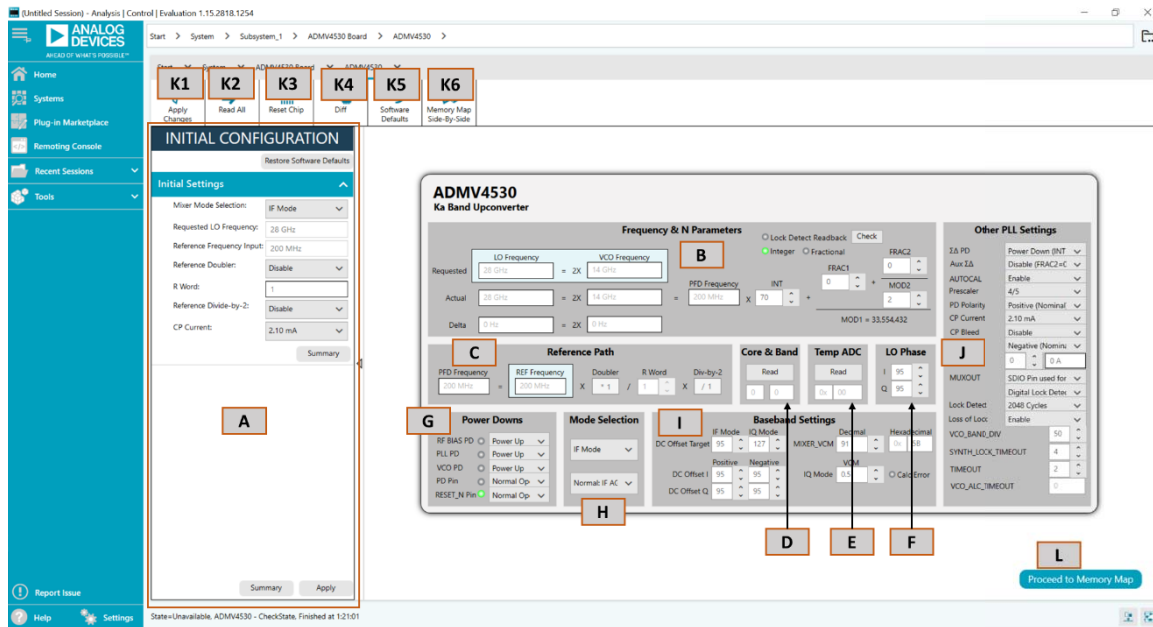

Figure 9. ADMV4530 Block Diagram with Labels
The full screen ADMV4530 user interface with labels is shown in Figure 9. The labels correspond to items listed in Table 1, which describes the functionality of each block. For additional detailed programming, refer to the ADMV4530 data sheet.
Table 1. ADMV4530 Block Diagram Label Functions (See Figure 9)
B	<p>Use the Frequency & N Parameters section to change settings for the LO frequency after applying the initial settings in the Initial Configuration (Label A) section. This section includes the following:</p> <p>Requested LO Frequency and VCO Frequency: enter values in these two text boxes to trigger the INT, FRAC1, FRAC2, and MOD2 calculations.</p> <p>INT, FRAC1, FRAC2, and MOD2: calculations based on the requested LO or VCO frequency. Changing these values directly changes the actual LO and VCO frequency accordingly but does not change the requested LO and VCO frequency text boxes.</p> <p>PFD Frequency: calculation based on the Reference Path (Label C) section.</p> <p>Actual LO Frequency and VCO Frequency: the actual LO frequency and the actual VCO frequency are calculated from the PFD frequency, INT, FRAC1, FRAC2, MOD1, and MOD2 parameters shown on the right side of the equation (see Figure 9).</p> <p>Delta LO Frequency and VCO Frequency: the delta is computed from the difference between the requested and actual frequencies, which is useful for detecting if there is any residual frequency error due to limitations caused by synthesizer resolution.</p> <p>Lock Detect Readback: click the check button next to this option to check whether the PLL is locked.</p> <p>Integer and Fractional indication light: indicates if the chip is in integer or fractional mode.</p>
C	<p>Use the Reference Path section to change the reference parameters and PFD frequency after applying the initial settings in the Initial Configuration (Label A) section. This section includes the following:</p> <p>PFD Frequency: the calculated PFD frequency based on the equation on right (see Figure 9).</p> <p>REF Frequency: enter the reference input frequency.</p> <p>Doubler: click this button to enable or disable the doubler.</p> <p>R Word: scroll up and down to change the R word values, ranging from 1 to 32.</p> <p>Div-by-2: click this button to enable or disable the reference divide by 2 function.</p>
If a reset of the ADMV4530 chip is required on the ADMV4530IQ-EVALZ or ADMV4530IF-EVALZ evaluation board, it is recommended to use the automated reset sequence. Click **Reset Chip** (see Figure 9, Label K3 and Table 1 for additional information). This automated sequence performs the following actions:
- The $\overline{\text{RST}}$ pin can also be pulled low from within the ACE software by using the dropdown menu in the lower left corner of Figure 9 (see Label G). When using this option, be sure to return the dropdown menu back to **Normal Operation** after resetting the device.